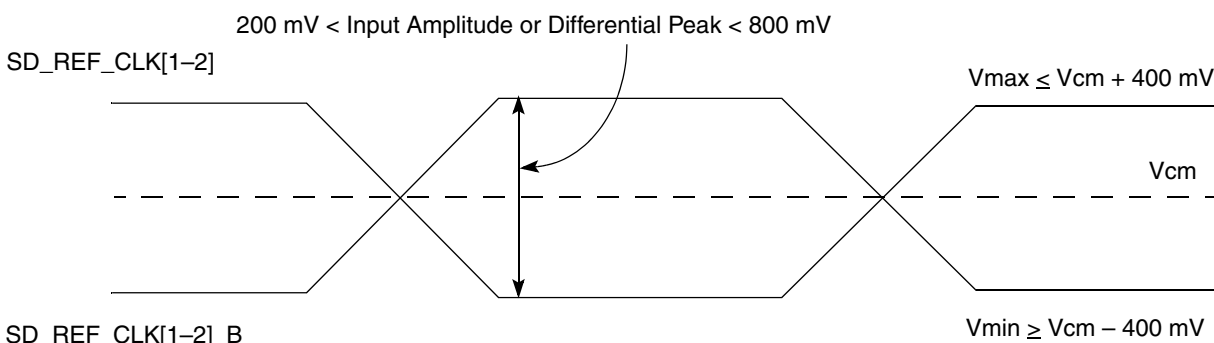

Figure 40. Differential Reference Clock Input DC Requirements (External AC-Coupled)
- For an external AC-coupled connection, there is no common mode voltage requirement for the clock driver. Because the external AC-coupling capacitor blocks the DC-level, the clock driver and the SerDes reference clock receiver operate in different command mode voltages. The SerDes reference clock receiver in this connection scheme has its common mode voltage set to GND_{SXC} . Each signal wire of the differential inputs is allowed to swing below and above the command mode voltage GND_{SXC} . Figure 40 shows the SerDes reference clock input requirement for AC-coupled connection scheme.